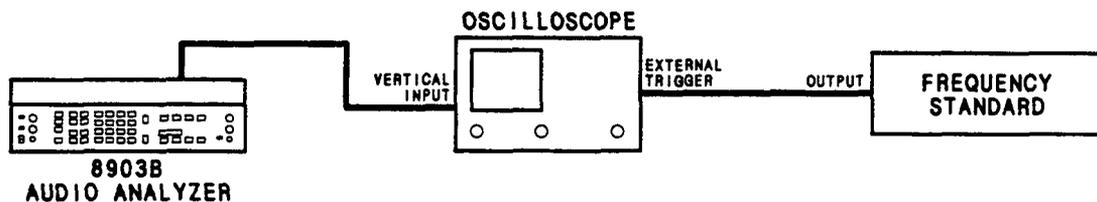

Figure 5-1. Internal Reference Frequency Adjustment Test Setup
2. Connect the equipment as shown in Figure 5-1. For instruments with *Serial Prefix 2922A and below*, connect the oscilloscope to A8TP15. For instruments with *Serial Prefix 2948A and above*, connect the oscilloscope to A8TP2. (The figure shows the setup for house-standard frequencies of 2 MHz or lower. If the frequency of the frequency standard is 5 or 10 MHz, reverse the vertical input and external trigger connections on the oscilloscope.)